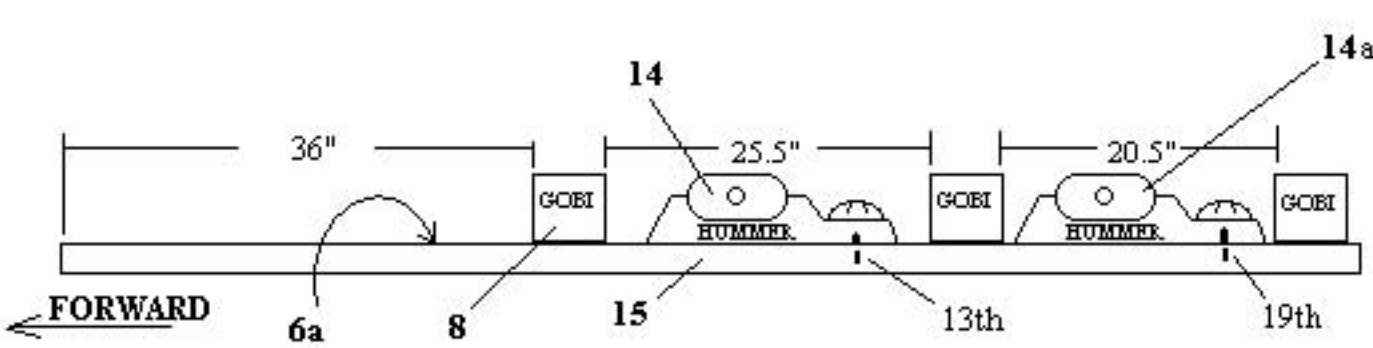

FIG.1
1. Reposition the forward factory Cross bar Fig.1 #14 to the 13th indicator line on the side plastic roof track cover #15. Reposition the rearward factory cross bar Fig.1 #14a to the 19th indicator line on the side plastic roof track cover #15 both sides.
4. Place support bracket #8 in the direction shown in the illustration with small bolt holes faced down onto rubber washer #7 and thread bolts, lock washers and washers #9 found in Plastic Bag labeled #3 thru support bracket #8 and into "T" nut #6. **Make certain** "T" nuts are installed in vehicle roof track 6a correctly as shown in Fig. 3 page 3. Repeat this step to all #8 support brackets and keep spacing of #8 support brackets as shown in Fig. 1 page 3. Finger tighten bolts at this time.
5. After all #8 support brackets have been installed and spaced as shown in Fig. 1 page 3 place the GOBI rack #11 with welded-in brackets #11a on top of all #8 support brackets.